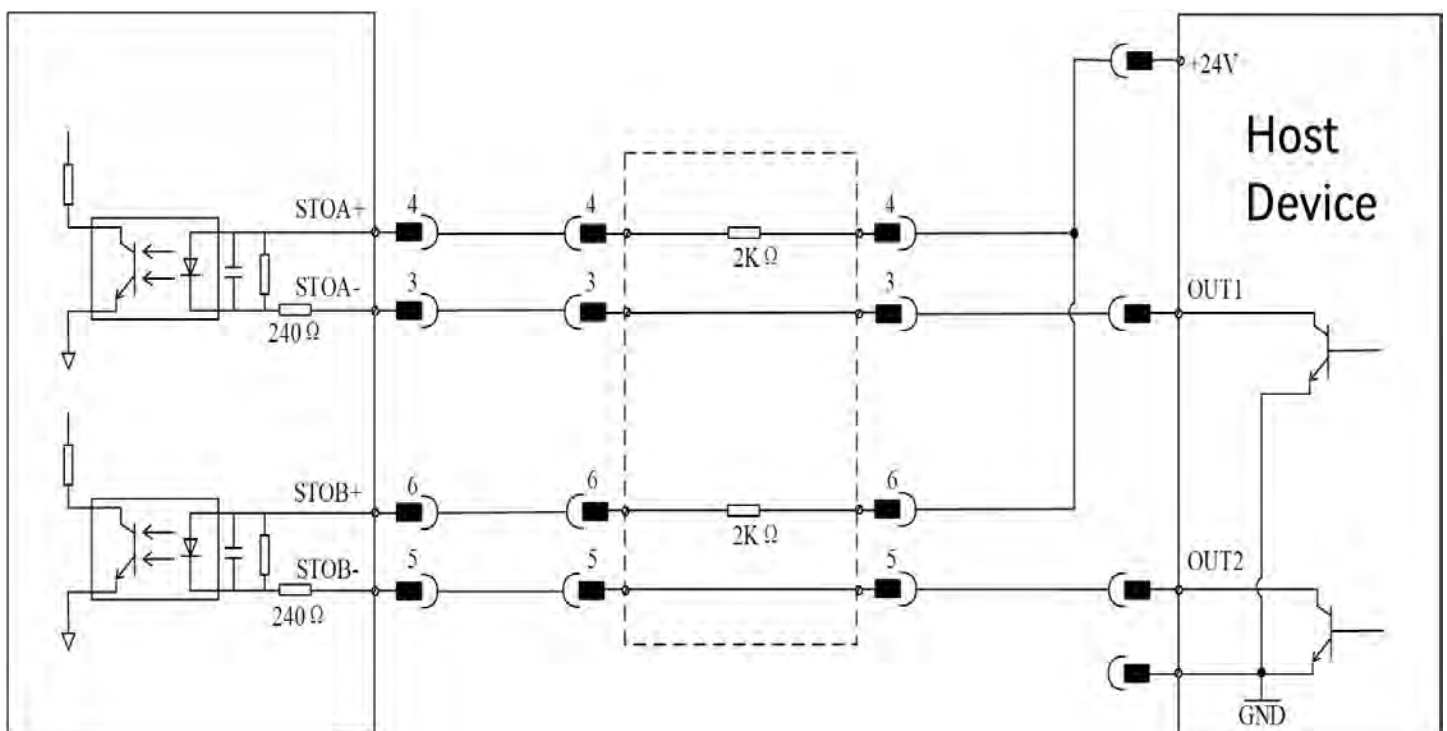

Figure 6-12 Safe torque off (STO) terminal wiring diagram
(2) Safe Torque Off (STO) function terminal (as shown in Figure 6-12):